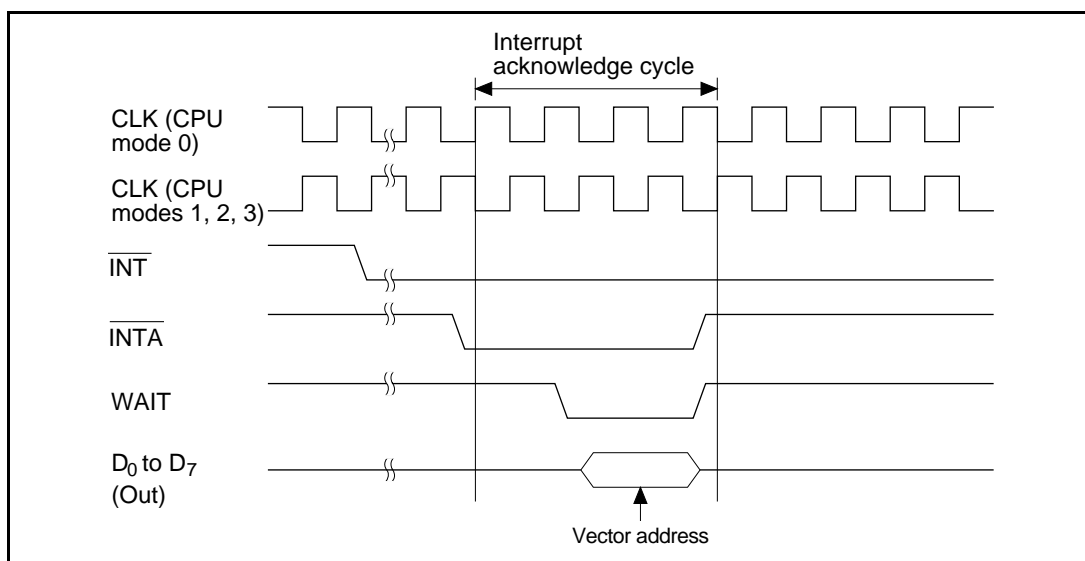

Figure 4.2 Timing Sequence of Single Acknowledge Cycle
2. Single acknowledge cycle: The IVR or IMVR contents are output on the data bus at the first active (low) $\overline{\text{INTA}}$ input (figure 4.2).